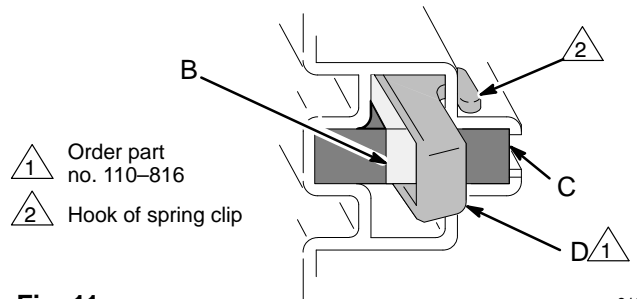

Fig. 11
2. Push in the spring clip (E) to unhook it, and then pull it out. See Fig. 11.